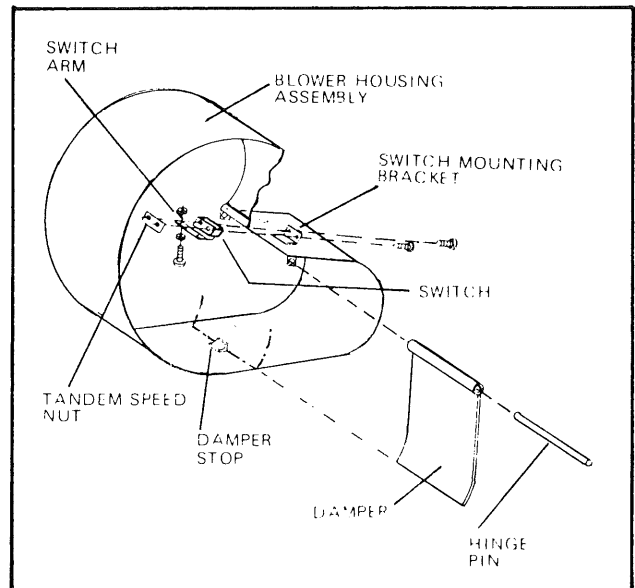

Figure 3-5. Damper Switch Assembly
**3-19 DAMPER SWITCH REMOVAL AND ADJUSTMENT (Refer figure 3-5)**